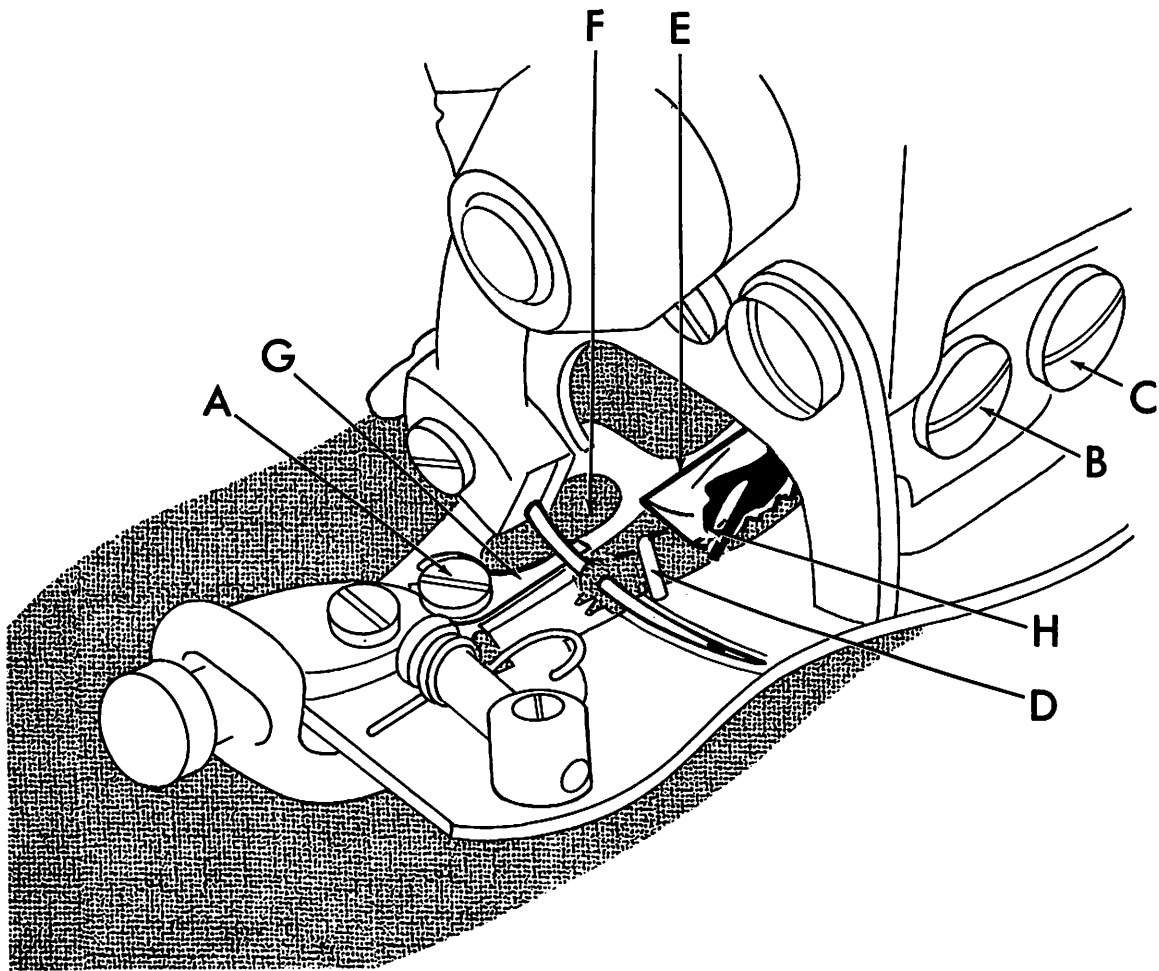
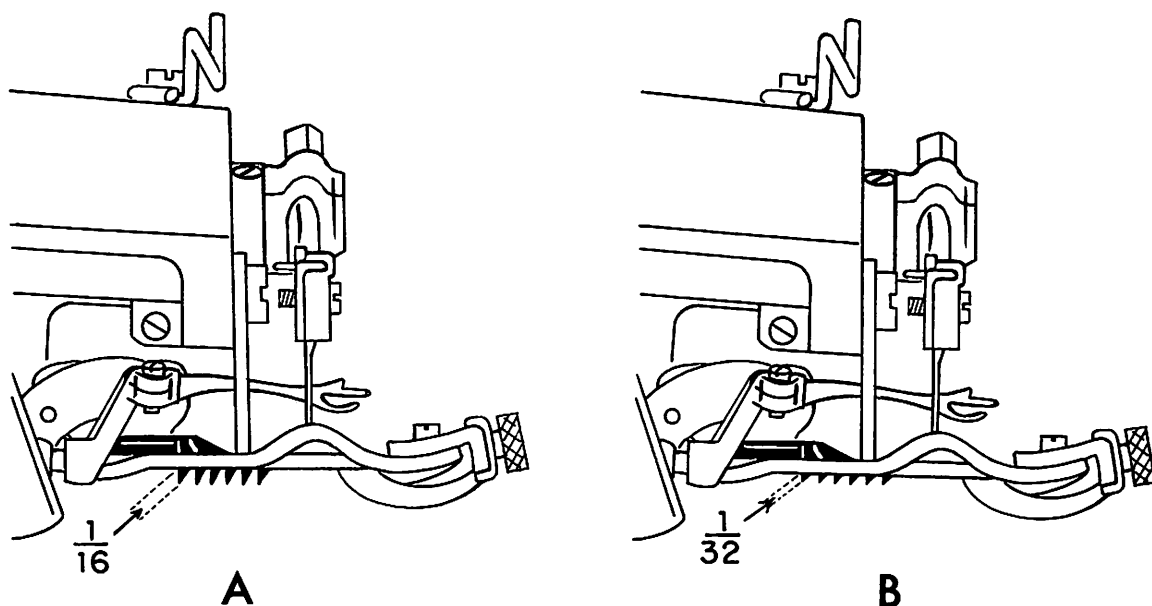

FIGURE 9
FIGURE 10
9. After all the necessary adjustments have been made, tighten all set screws and the lock nut and recheck all the adjustment points. Referring to Figure 9 the looper should now clear the chain-off pin ("D"), feeder ("E"), looper slot ("F"), needle, and pass over the needle in the correct position to pick up the loop.
1. After considerable service, it may be expected that the wearing action of the needle will cause a sharp edged groove to form on the needle guide (item "G" in Figure 9).
2. Loosen the needle guide attaching screw (item "A" in Figure 9) and remove the worn needle guide. Clean out any lint or dirt that may have accumulated under the old guide and insert the new guide. Insure that the new guide is seated flush with the top and side of the presserfoot and then retighten the attaching screw. Slowly turn the handwheel in the direction away from the operator and check to insure that the new guide fits properly under the needle and that no interference has been introduced between the guide and the looper.
1. In the event that the machine develops difficulty by failing to properly feed the work, a worn feeder is frequently found to be the cause. After considerable service, especially with certain hard fabrics, the feeder teeth have a tendency to become dull, and the feeder should be replaced. In order to remove the old feeder, remove the front feeder attaching screw (item "B" in Figure 9) and loosen the rear feeder attaching screw (item "C" in Figure 9). The old feeder may then be slid out of place. Insert the new feeder under the rear screw and replace the front screw.
2. Before tightening the attaching screws check to see that the feeder is set to the proper depth. Referring to Figure 10 this should be approximately  $\frac{1}{32}$ " (.795mm) below and parallel to the bottom of the presserfoot for all light and medium weight fabrics. For heavy fabrics, the setting should be approximately  $\frac{1}{16}$ " (1.59mm) below and parallel to the bottom of the presserfoot. These dimensions are intended as guides and may be modified as required by the specific fabrics. Once the proper depth is established, rotate the handwheel slowly in a direction away from the operator and check to insure that the feeder clears the looper (see Figure 9, Point "H") and also clears both sides of the feeder slot in the presserfoot. Firmly tighten feeder attaching screws (Figure 9, Items "B" & "C") before resuming sewing.